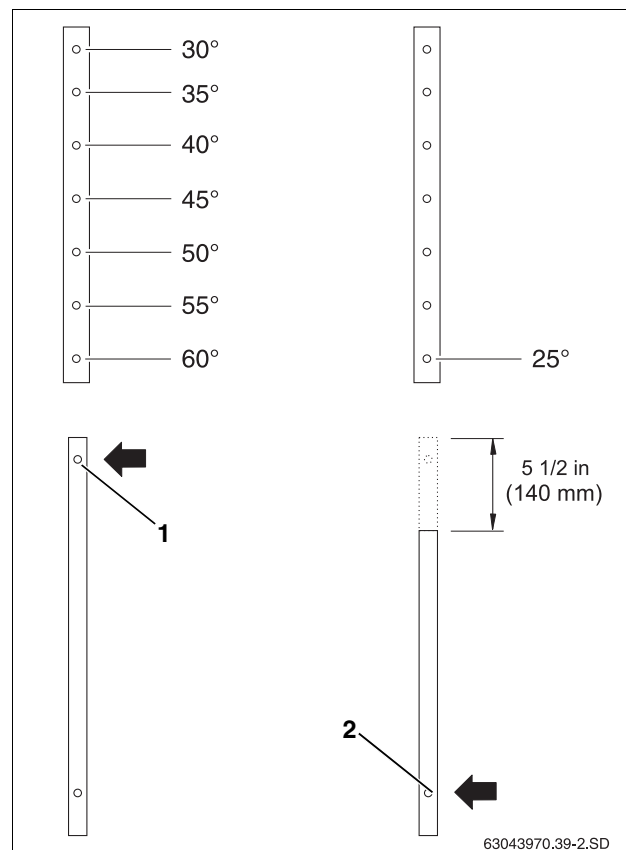
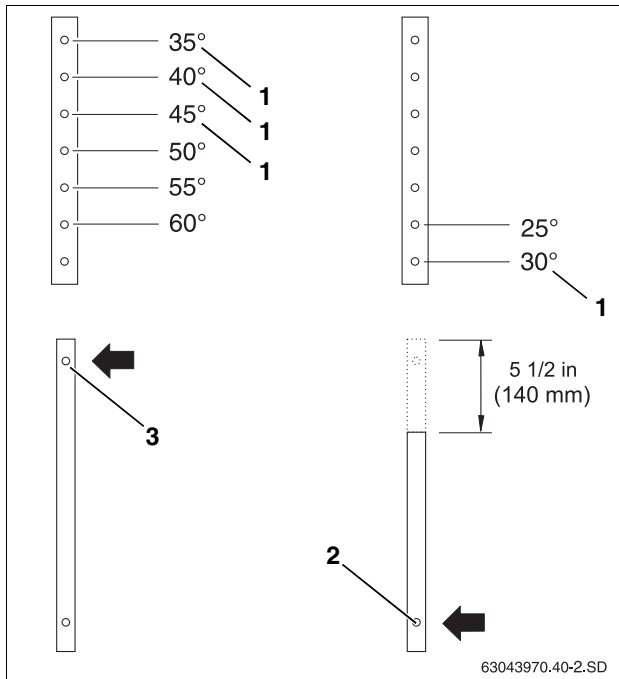

Fig. 12 Adjustment angle for Portrait collectors
Fig. 13 Adjusting the inclination for horizontal collectors
- ▶ Select holes on the upper and lower telescopic rails as shown in Fig. 12 and Fig. 13.
For Portrait collectors of a collector with an inclination of 30° to 60°, use the uppermost hole on the lower telescopic rail (Fig. 12, [1]).
For an inclination of 25°, shorten the top of the lower rail by 5-1/2 inches (140 mm) and use the lower hole (Fig. 12, [2]).
For Landscape collectors with an inclination of 35° to 60°, use the uppermost hole on the lower telescopic rail (Fig. 13, [3]).
For an inclination of 25° and 30°, shorten the top of the lower rail by 5-1/2 inches (140 mm) and use the lower hole (Fig. 13, [2]).
- ▶ For wall-mounted installation, use only the positions for 30°, 35°, 40° and 45° (Fig. 13, [1]).